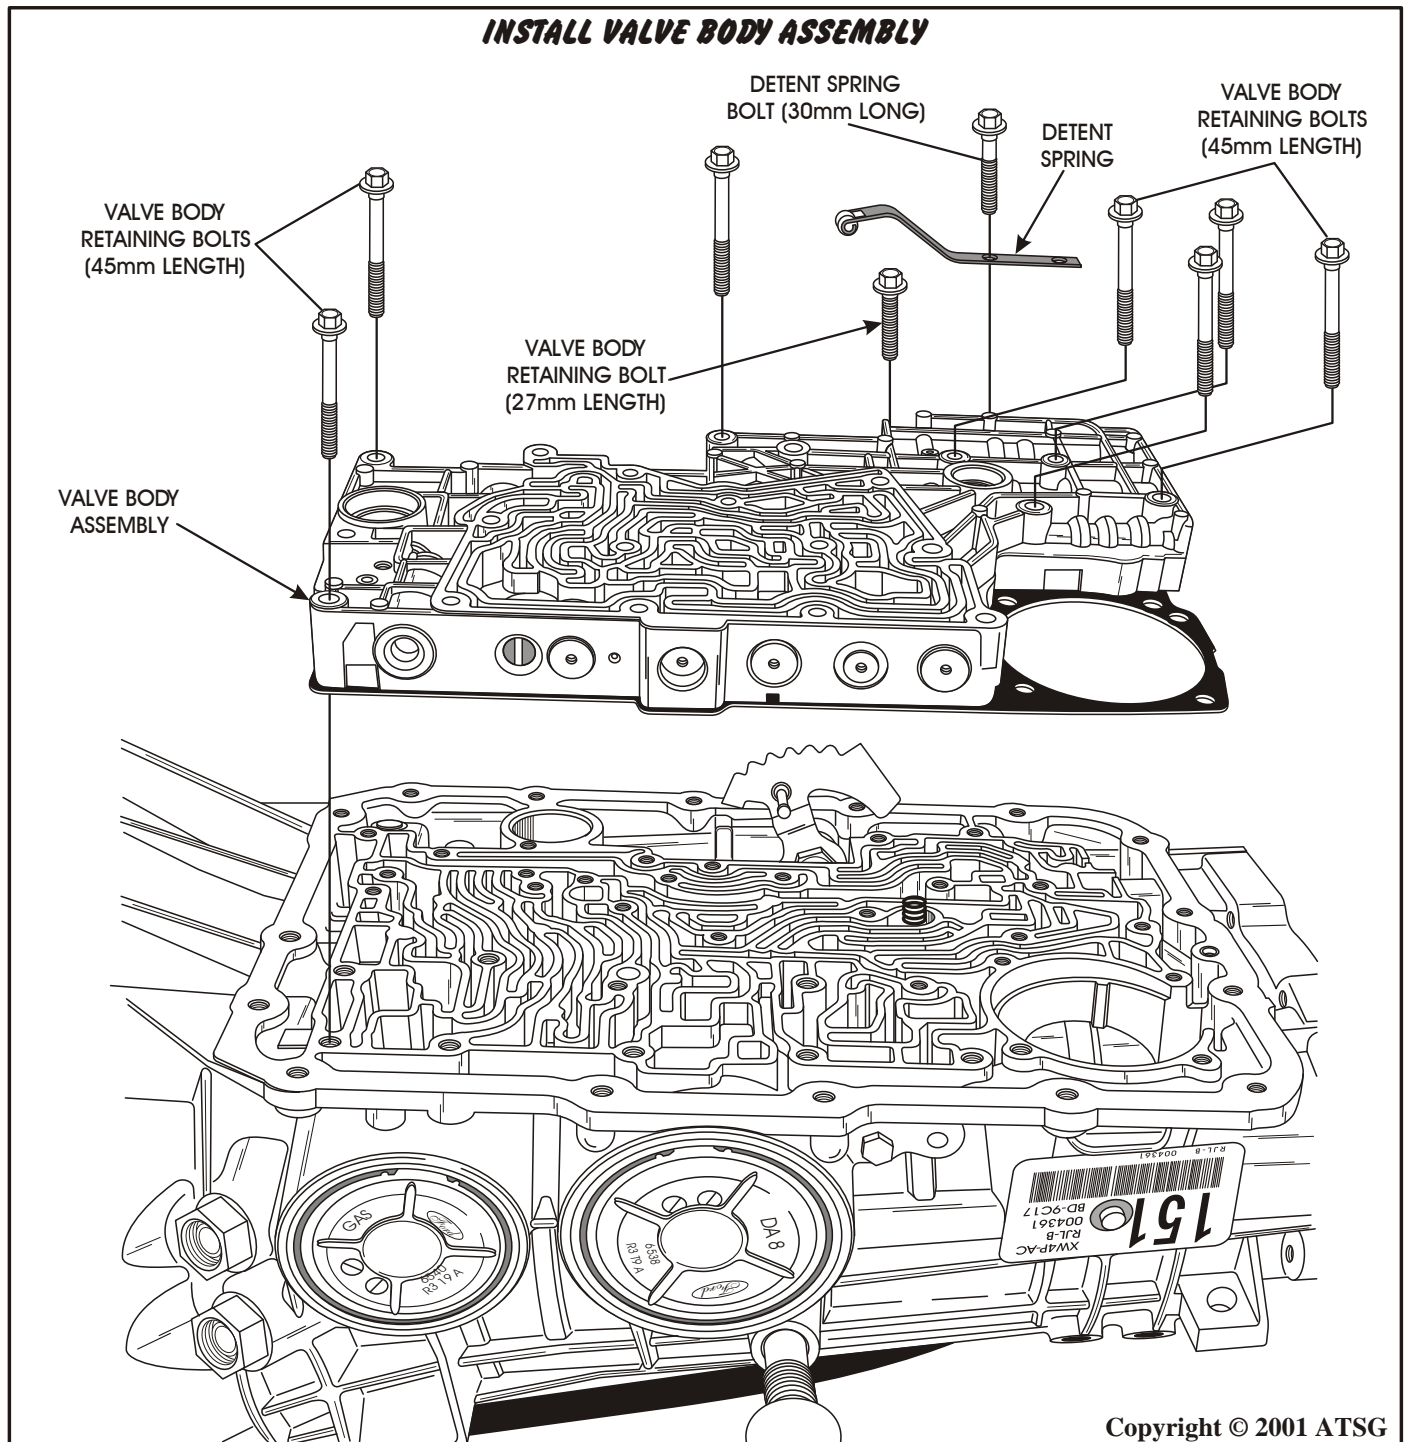

Figure 173
67. Install the pre-assembled valve body assembly onto the case, as shown in Figure 173.
68. Install the valve body retaining bolts into the exact locations, as shown in Figure 173, finger tight only, and paying attention to the length of the bolts to ensure proper location.
69. Install the detent spring and retaining bolt, as shown in Figure 173, finger tight only.